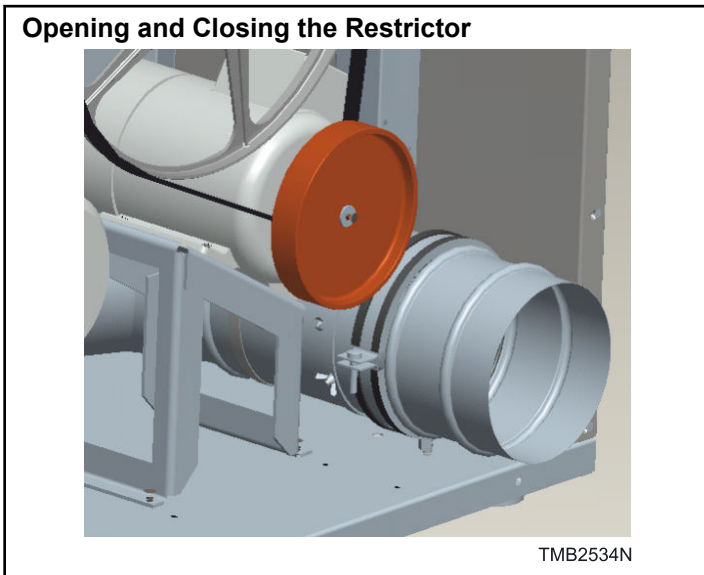
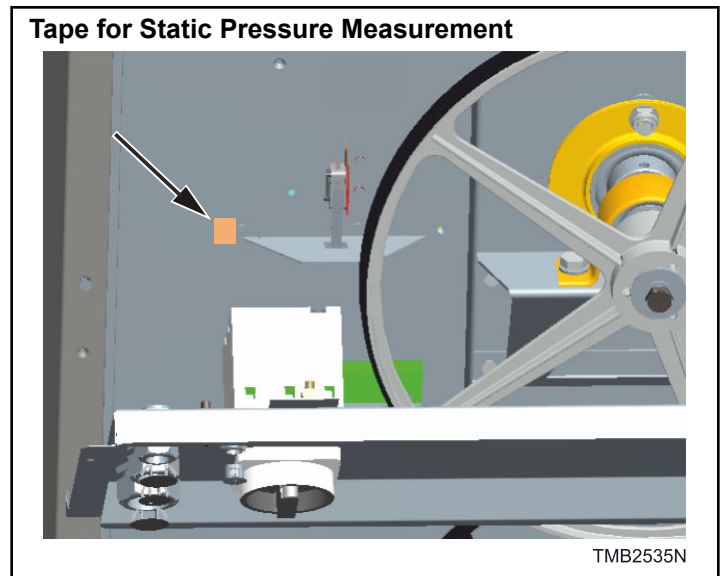
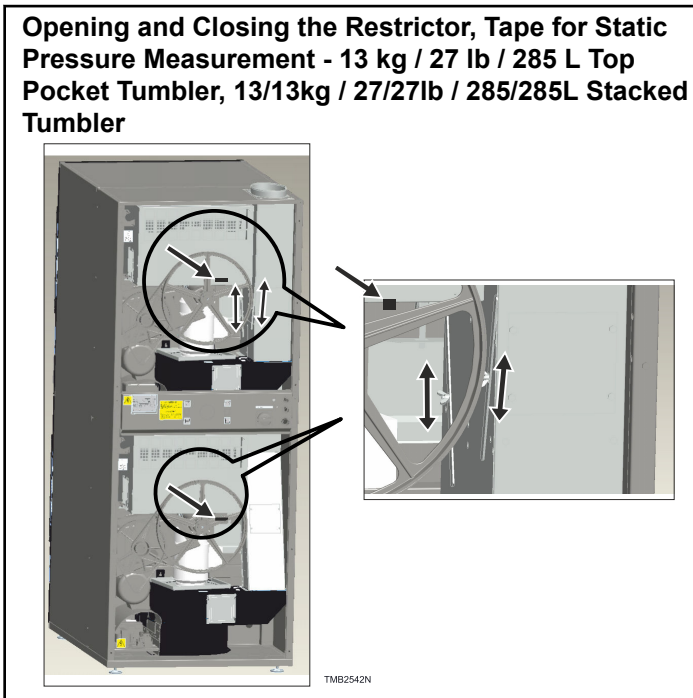

Figure 39
Figure 40
Figure 41
1. Remove the rear cover. Flow rate adjustment is carried out by measuring the static pressure at the point of the underpressure clutch. Opening for static pressure measurement is covered by a tape. Refer to *Figure 40* and *Figure 41*.
3. Pressure is decreased or increased by opening or closing the restrictor. Refer to *Figure 39* and *Figure 41*.